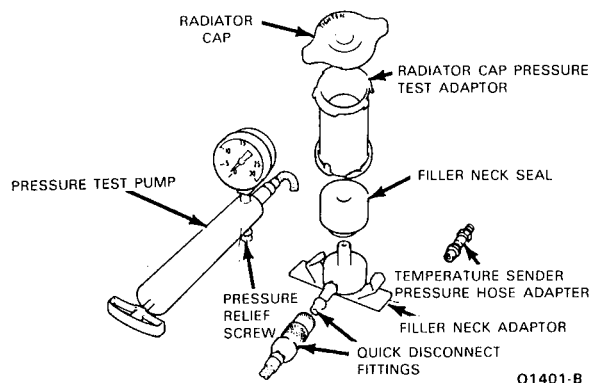

FIG. 2 Pressure Test Pump and Attachments
4. Install the adapter fitting from the Rotunda Pressure Tester 21-0012 (or equivalent) (male thread on one end, and a hose connector on the other end to accommodate the tester hose) tightly into the intake manifold or cylinder head in place of the sending unit. (See Fig. 2).
6. Attach the pressure pump and gauge (Fig. 2) to the adapter fitting and pressurize the cooling system to the cap **LOWER LIMIT** as shown in the test chart.
Refer to Fig. 2.